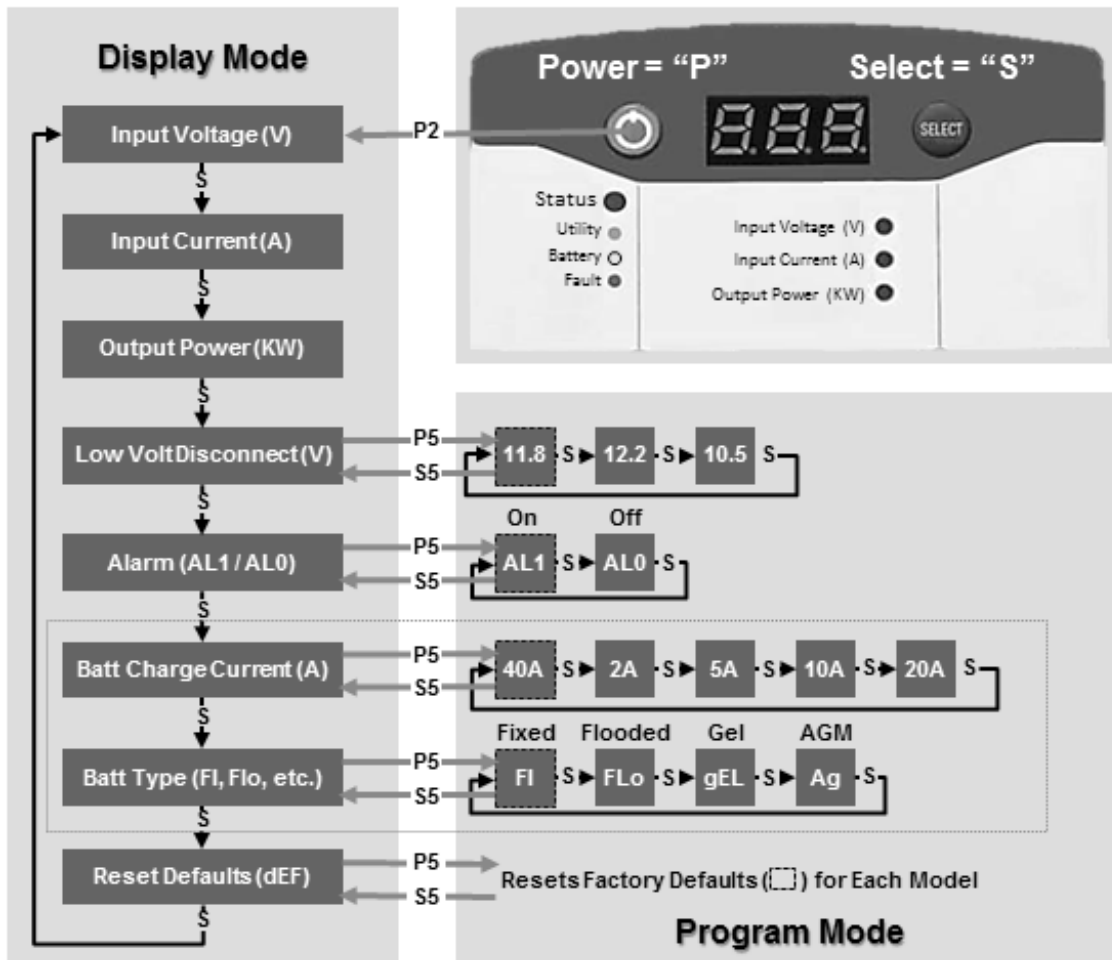

Figure 2. Setting flow chart
- Set to factory defaults (see Figure 2: Setting flow chart)